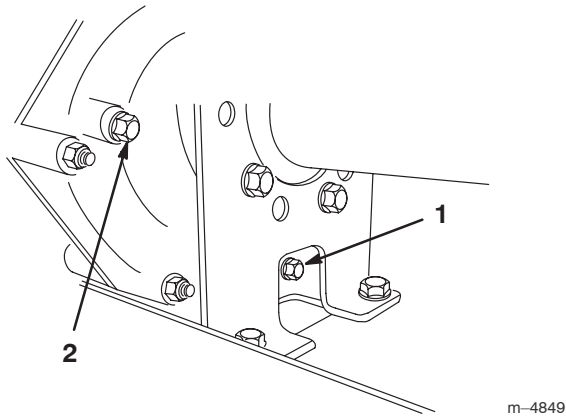
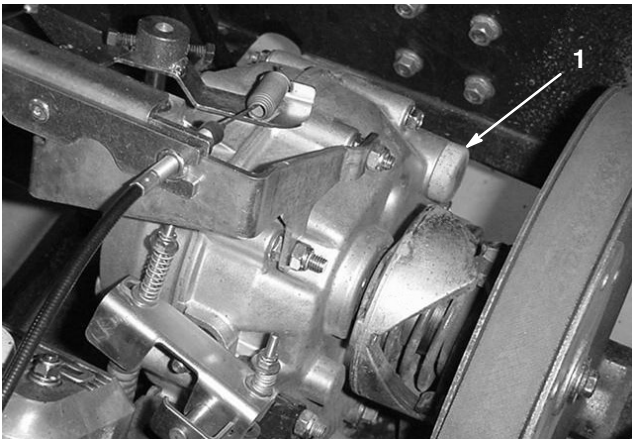

Figure 44
Figure 45
2. Remove the drain plug from the right side of the reservoir (Fig. 44) and let the fluid flow into a drain pan. Install and tighten the plug when the fluid stops draining.
3. Fill the reservoir (Fig. 45) with approximately 1-1/2 qt. (1.4 liters) of SAE 10W30 motor oil or until the oil level is at the bottom of the level indicator hole (Fig. 44).